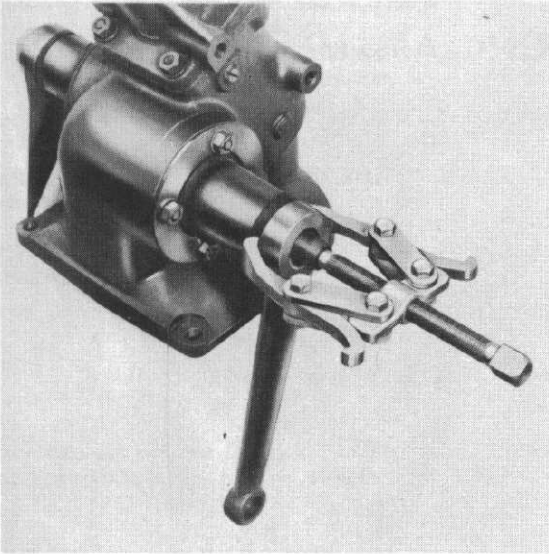

Fig. 2
Step 2—Pull both steering arms off of the sector shafts as shown in Figure 2 and remove the felt washers.